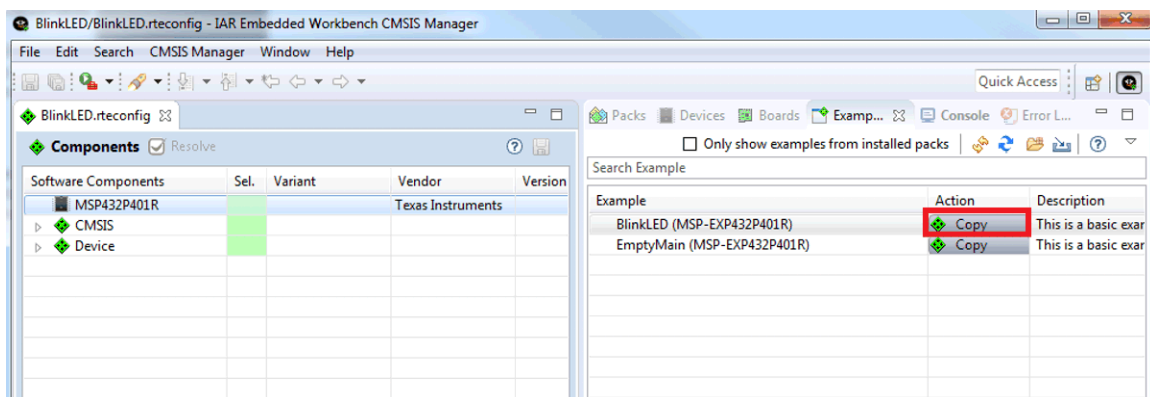

Figure 4. Select Example
2. In the examples tab, select the desired example and click **Copy** to add the example to your workspace (see Figure 4).